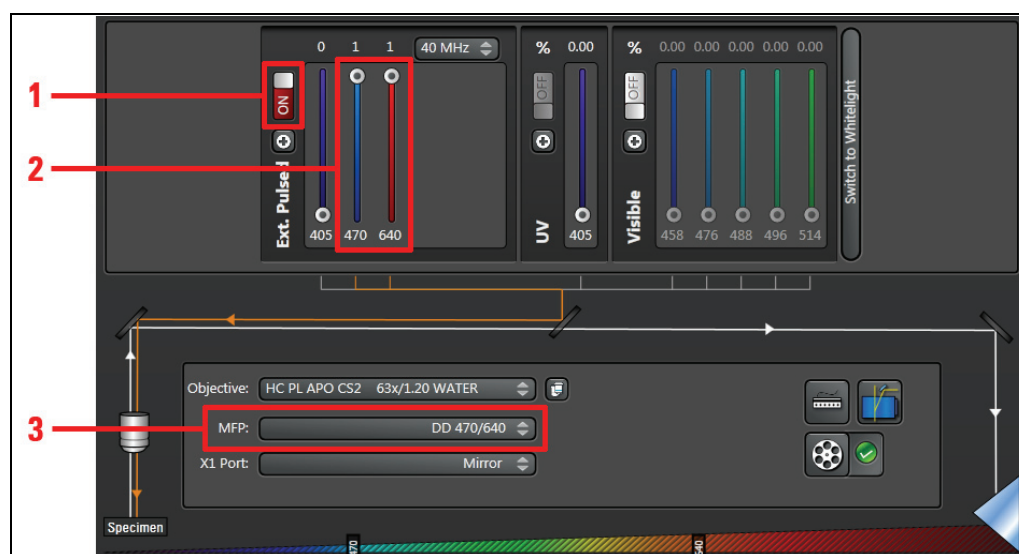

Figure 104: Settings for pulsed VIS lasers in Beam Path Settings
6. Open the shutter for pulsed lasers by turning the button to **ON** (**Figure 104, item 1**).
7. Activate the desired laser by moving the corresponding slider up all the way (**Figure 104, item 2**).
8. Make sure that the multifunction port (MFP, **Figure 104, item 3**) is in the right position (**Table 18**).